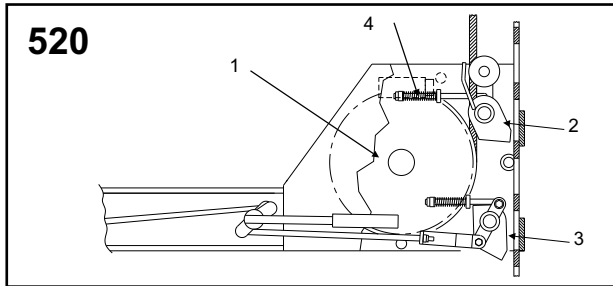

Fig.7
As shown in fig.7, the ends of the cross-pieces are fitted with the following parts:
In the model 520 the safety wedge (fig. 7 and 8, pos. 2) take the weight in the event of a cable failure; the wedge automatically engages with the safety rods and immediately stops the movable section of the lift together with the vehicle; the cable micro-switch (4) disconnects the electrical parts.